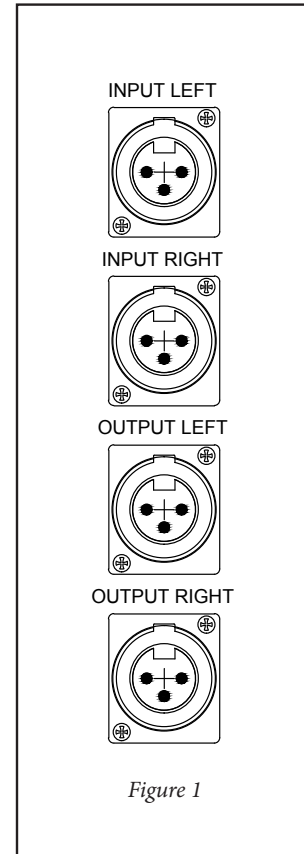

Figure 1
- Plug the source signals you want to be processed by the UnFairchild into the "INPUT LEFT" and "INPUT RIGHT" XLR Input jacks on the back (see *Figure 1*). These inputs are used for both "A" and "B" dual mono operation and "Left/Right" stereo operation.